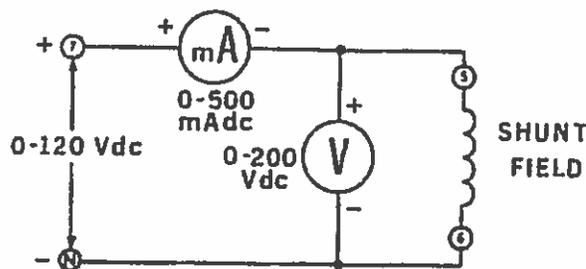

Figure 11-1.
6. You will now measure the resistance of each of the motor windings using the voltmeter-ammeter method. With this information you will calculate the power losses for each of the windings. Using your Power Supply, DC Voltmeter/Ammeter and DC Motor/Generator, connect the circuit shown in Figure 11-1.
- a. This is the same circuit as shown in Figure 11-1 except that the series field winding has replaced the shunt field winding and that the 5 A dc meter has replaced the 500 mA dc meter.